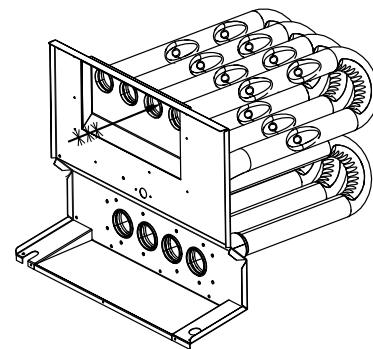

Fig. 39 – Cleaning Heat Exchanger Cell
- (2.) Insert brush end of cable into the outlet opening of cell and slowly rotate with drill. DO NOT force cable. Gradually insert cable into upper pass of cell, see Fig. 39.